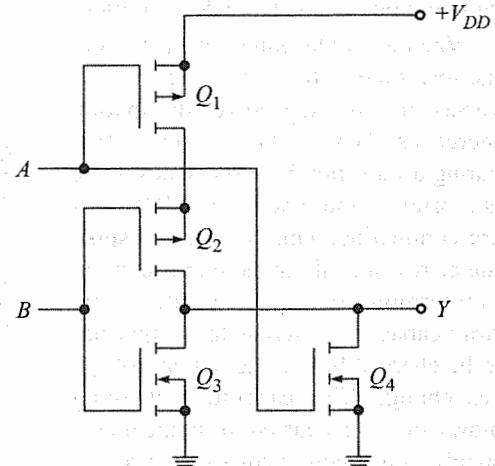

Fig. 14.34 CMOS NOR gate
18. Could the resistor  $R_L$  in Fig. 14.34 be replaced with a red LED?
Figure 14.34 shows a CMOS NOR gate. The output goes high only when  $Q_1$  and  $Q_2$  are closed. The output goes low if either  $Q_3$  or  $Q_4$  is closed. There are four possible cases: